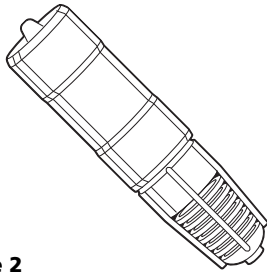

Figure 2
3. A check valve must be used in the suction line to maintain the self-priming capability. If no check valve is used the pump will need to be primed at the start of each operation. For best operation, the check valve should be installed at the intake of the suction line (Figure 2).